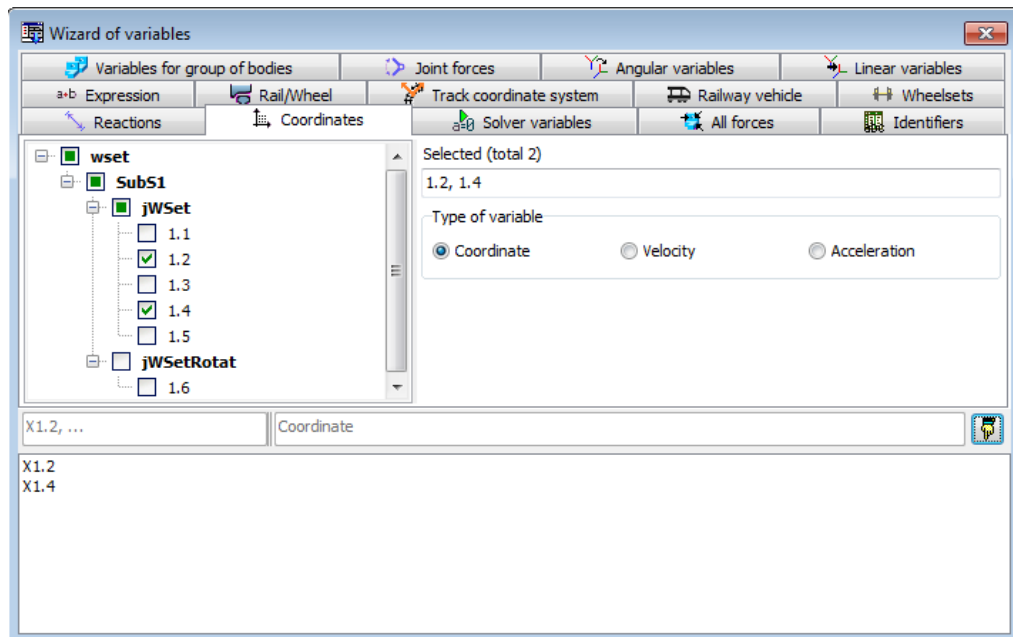

Figure 1.7. Wheelset coordinates
8. Select **Wheelset | jWSet | 1.2** and **1.4**, see Figure 1.7.